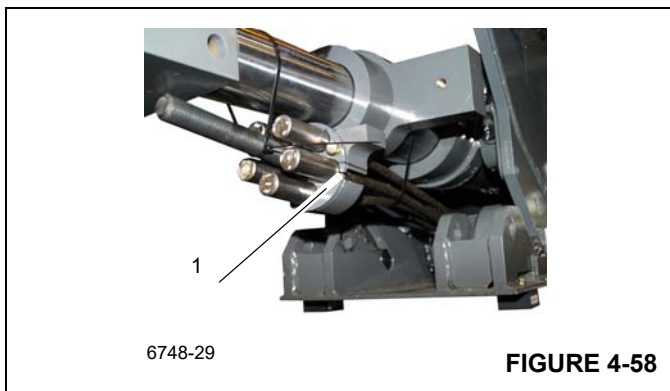
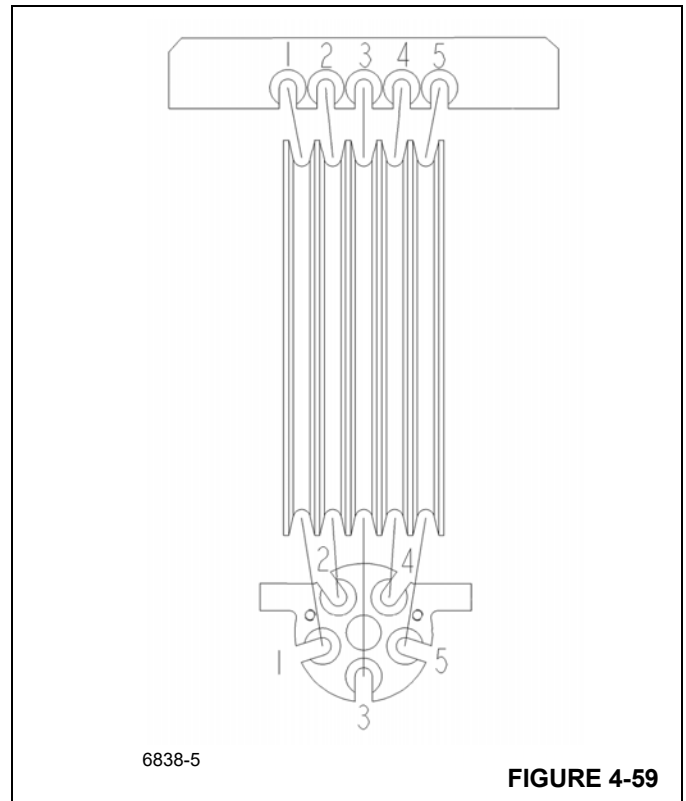

FIGURE 4-58
FIGURE 4-59
20. Install the extend cables in to the round keeper plate (1), (Figure 4-58) and (Figure 4-59).